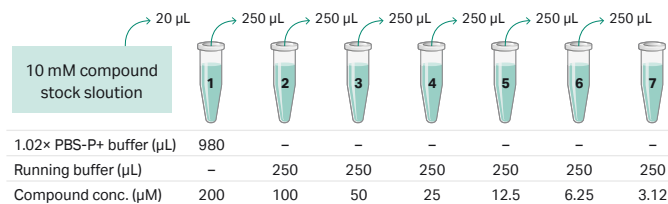

Fig 2. Dilution example for concentration series from 3.12 to 50 µM. This concentration series could be used for a kinetic analysis.
- For example, dilute the sample stock (in 100% DMSO) solution 50 times to obtain a DMSO concentration of 2%. For 1000 μL, mix 20 μL of sample stock with 980 μL of 1.02× PBS-P+. If the sample stock is 10 mM, this dilution will result in a sample concentration of 200 μM. To prepare a concentration series, dilute the sample further using assay running buffer (PBS-P+ with 2% DMSO). An example is shown in Figure 2.